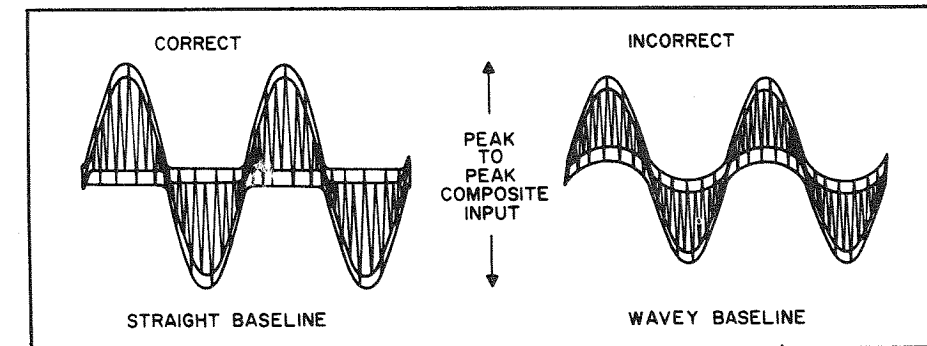

Figure 4. Composite Input To Multiplex Decoder.
(2) Connect DC VTVM to Test Point 403 (on MPX board). Connect the vertical input of the scope to pin 4B (on MPX board).
(3) Set MPX generator for 19 kHz pilot carrier output only. Adjust pilot level for approximately 120mV peak-to-peak input at pin 4B.
(4) Adjust cores of Z401 and Z402 (on MPX board) for maximum reading on DC VTVM.
(5) Connect output of audio generator, set for 1 kHz, to the external modulation input of MPX generator and to external sync input of an oscilloscope. Adjust audio generator level for 1.2 volts peak-to-peak composite MPX input to MPX board (10% pilot, 90% audio). See Figure 4. Modulate right channel only. Proceed with Steps (5) through (10) of PREFERRED ALIGNMENT PROCEDURE.
(6) Reconnect the lead going to pin 4B (on MPX board).